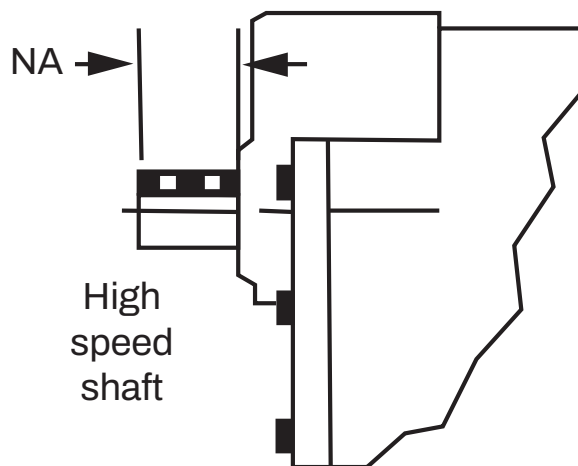
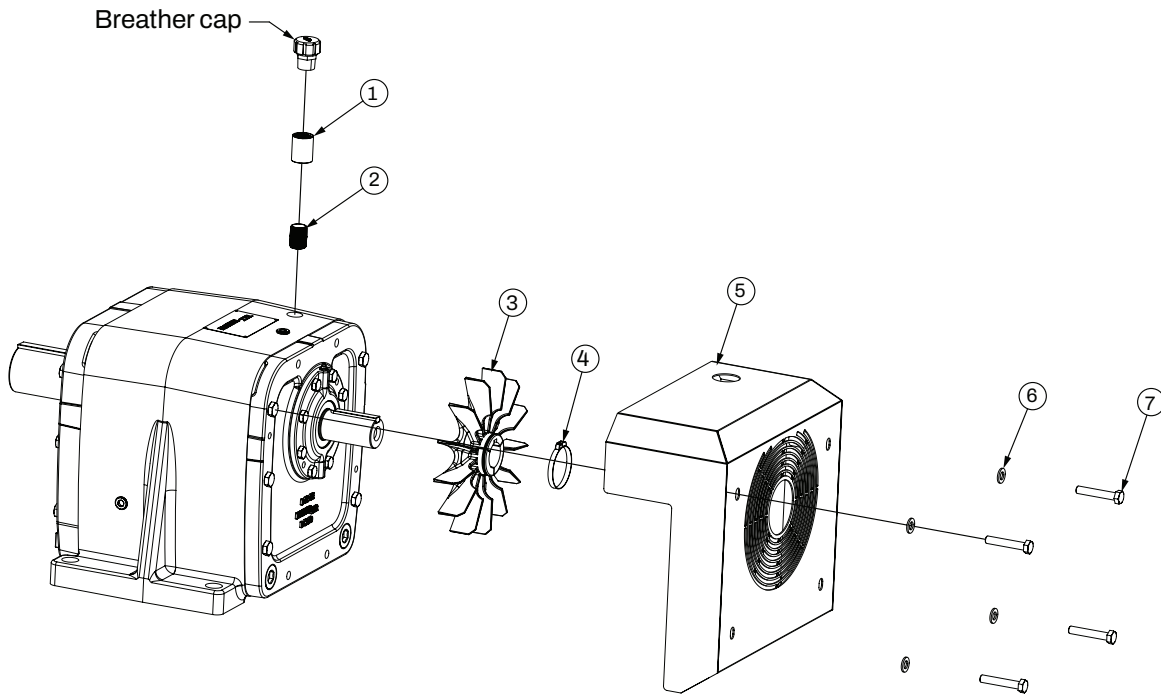

Figure 10 - Fan "NA" Dimensions
Figure 11 - Fan Parts Identification
1. Refer to Table 10 and Figure 10 for the proper "NA" dimension to use in locating the fan hub on the input shaft. Refer to Figure 11 for parts identification.